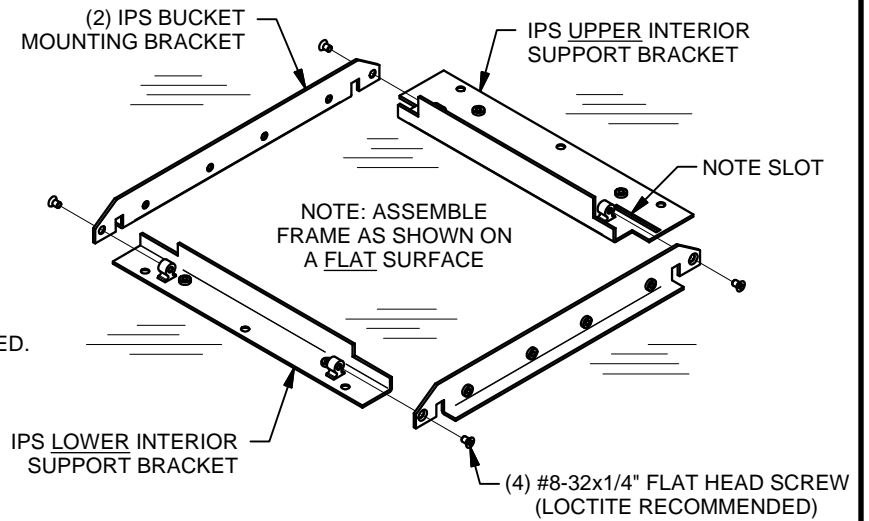

FIGURE 3
3. ASSEMBLE FRAME ASSEMBLY AS SHOWN IN FIGURE 3.